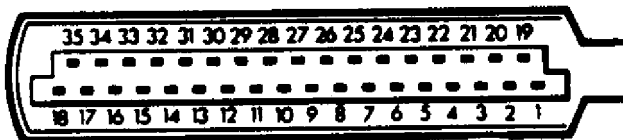
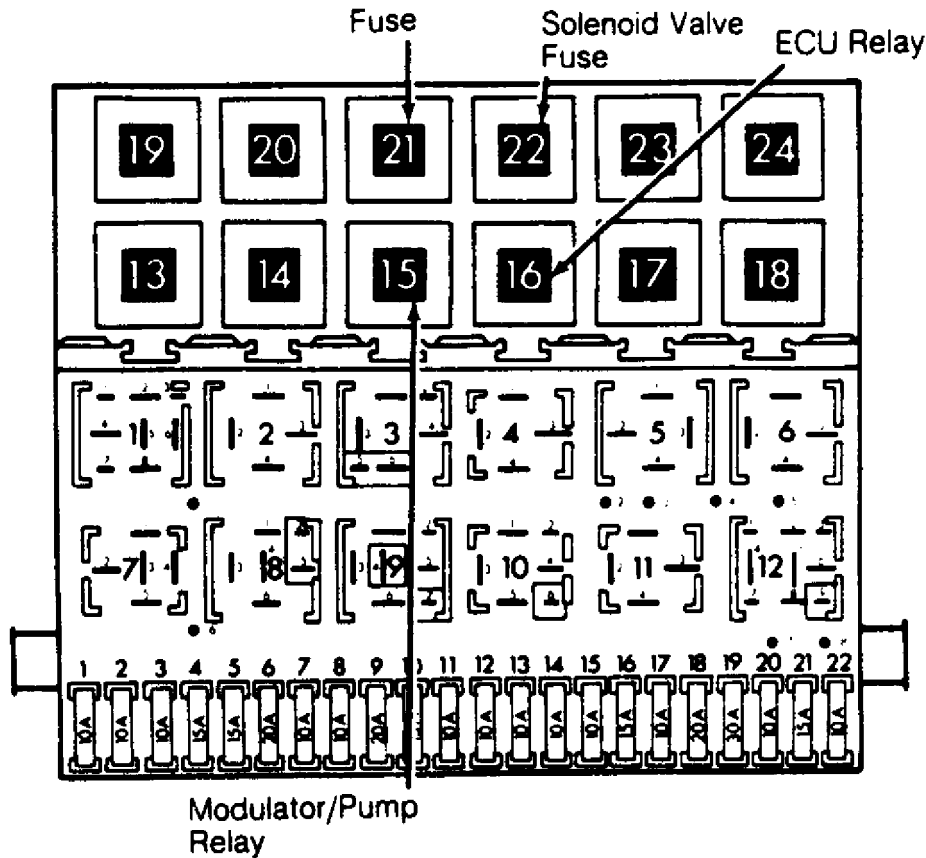

Fig. 2: Identifying ECU Connector Terminals
Fig. 3: Locating Relays
Turn ignition off. Unplug ECU connector. Turn ignition on. Using a voltmeter, check voltage between ECU connector terminals No. 1 and 2. See Fig. 2. If voltage is 10 volts or more, go to next test. If voltage is less than 10 volts, check battery, ground, ABS fuse, relay and wiring. Repair as necessary.
Connect a jumper wire between ECU connector terminals No. 2 and 8. See Fig. 2. Turn ignition on. Using a voltmeter, check voltage between ECU connector terminals No. 1 and 3. If voltage is 10 volts or more, go to next test. If voltage is less than 10 volts, check ABS fuse. If fuse is faulty, replace and retest. If fuse is okay, check wiring. If wiring is faulty, repair and retest. If wiring is okay, replace relay and retest.
1) Turn ignition off. Unplug hydraulic modulator/pump connector. Depress brake pedal 25 times. Turn ignition on. Using a voltmeter, measure voltage between ECU connector terminals No. 1 and 32. See Fig. 2. If voltage is 10 volts or more, go to RIGHT REAR WHEEL SPEED SENSOR VOLTAGE TEST under SYSTEM TESTING.
2) If voltage is less than 10 volts, check hydraulic modulator/pump fuse. If fuse is okay, check wiring between ECU connector terminal No. 32 and hydraulic modulator/pump connector terminal No. 1 (large gauge Red/Black wire). See Figs. 2 and 4-9. If wiring is not okay, repair wiring, and retest. If wiring is okay, replace relay, and retest.
Connect an AC voltmeter between ECU connector terminals No. 4 and 22. See Fig. 2. Rotate right rear wheel at one revolution per second. Measure voltage with wheel rotating. If voltage is 0.075 volt or more, go to next test. If voltage is less than 0.075 volt, check wheel speed sensor and/or toothed ring for damage, wear and proper installation. If damage or wear is found, replace faulty component and retest. If not properly installed, reposition and retest. If components are okay, replace wheel speed sensor and retest.
Connect an AC voltmeter between ECU connector terminals No. 6 and 24. See Fig. 2. Rotate left rear wheel at one revolution per second. Measure voltage with wheel rotating. If voltage is 0.075 volt or more, go to next test. If voltage is less than 0.075 volt, check wheel speed sensor and/or toothed ring for damage, wear and proper installation. If damage or wear is found, replace faulty component and retest. If not properly installed, reposition and retest. If components are okay, replace wheel speed sensor and retest.
Connect an AC voltmeter between ECU connector terminals No. 7 and 25. See Fig. 2. Rotate right front wheel at one revolution per second. Measure voltage with wheel rotating. If voltage is 0.075 volt or more, go to next test. If voltage is less than 0.075 volt, check wheel speed sensor and/or toothed ring for damage, wear and improper installation. If damage or wear is found, replace faulty component, and retest. If component is improperly installed, reposition component, and retest. If components are okay, replace wheel speed sensor, and retest.
Connect an AC voltmeter between ECU connector terminals No. 5 and 23. See Fig. 2. Rotate left front wheel at one revolution per
Turn ignition off. Using an ohmmeter, check for continuity between ECU connector terminals No. 1 and 3, and between terminals No. 1 and 20. See Fig. 2. If there is continuity at both test points, go to next test. If there is no continuity at either or both test points, check wiring. If wiring is faulty, repair and retest. If wiring is okay, replace relay and retest.
1) Turn ignition off. Remove jumper wire from previous test. Using an ohmmeter, check for continuity between ECU connector terminals No. 1 and 11. See Fig. 2. If there is continuity, go to next step.
3) Reconnect jumper wire between ECU connector terminals No. 1 and 11. Check for continuity between ECU connector terminal No. 11 and valve block connector terminal No. 1 (Brown wire). See Figs. 2, 4-9. If there is no continuity, repair wiring and retest.
Turn ignition off. Ensure brake fluid level is okay and fluid level sensor switch float is in correct position (switch is in closed position). Ensure accumulator is fully charged and pump is not operating. Using an ohmmeter, check for continuity between ECU connector terminals No. 9 and 10. See Fig. 2. If there is continuity, switch is okay. If continuity does not exist, check wiring. If wiring is okay, replace switch, and retest.
Turn ignition off. Using an ohmmeter, measure resistance between ECU connector terminals No. 4 and 22. See Fig. 2. If resistance is 800-1400 ohms, go to next test. If resistance is not as specified, check resistance at right rear wheel speed sensor. If resistance is correct, repair wiring and retest. If resistance is not correct, replace wheel speed sensor and retest.
Using an ohmmeter, measure resistance between ECU connector terminals No. 6 and 24. See Fig. 2. If resistance is 800-1400 ohms, go to next test. If resistance is not as specified, check resistance at left rear wheel speed sensor. If resistance is correct, repair wiring and retest. If resistance is not correct, replace wheel speed sensor, and retest.
Using an ohmmeter, measure resistance between ECU connector terminals No. 7 and 25. See Fig. 2. If resistance is 800-1400 ohms, go to next test. If resistance is not as specified, check resistance at right front wheel speed sensor. If resistance is correct, repair wiring and retest. If resistance is not correct, replace wheel speed sensor and retest.
Using an ohmmeter, measure resistance between ECU connector terminals No. 5 and 23. See Fig. 2. If resistance is 800-1400 ohms, go to next test. If resistance is not as specified, check resistance at left front wheel speed sensor. If resistance is correct, repair wiring, and retest. If resistance is not correct, replace wheel speed sensor, and retest.
Using an ohmmeter, measure resistance between ECU connector terminals No. 4 and 1. See Fig. 2. If resistance is 20,000 ohms or more, go to next test. If resistance is less than 20,000 ohms, check shielding wire for damage. Replace harness if damage is found and retest.
Using an ohmmeter, measure resistance between ECU connector terminals No. 6 and 1. See Fig. 2. If resistance is 20,000 ohms or more, go to next test. If resistance is less than 20,000 ohms, check shielding wire for damage. Replace harness if damage is found and retest.
Using an ohmmeter, measure resistance between ECU connector terminals No. 7 and 1. See Fig. 2. If resistance is 20,000 ohms or more, go to next test. If resistance is less than 20,000 ohms, check shielding wire for damage. Replace harness if damaged, and retest.
Using an ohmmeter, measure resistance between ECU connector terminals No. 5 and 1. See Fig. 2. If resistance is 20,000 ohms or more, go to next test. If resistance is less than 20,000 ohms, check shielding wire for damage. Replace harness if damaged, and retest.
Using an ohmmeter, measure resistance between ECU connector terminals No. 1 and 8. See Fig. 2. If resistance is 50-100 ohms, go to next test. If resistance is not as specified, check wiring. If wiring is faulty, repair and retest. If wiring is okay, replace relay and retest. See Fig. 3.
Using an ohmmeter, measure resistance between ECU connector terminals No. 11 and 17. See Fig. 2. If resistance is 5-7 ohms, go to next test. If resistance is not 5-7 ohms, measure between hydraulic modulator block terminals No. 1 (Brown wire) and 5 (Gray wire). See Fig. 4-9. If resistance is 5-7 ohms, check wiring between hydraulic modulator and ECU for open circuit. If resistance is not 5-7 ohms, replace hydraulic modulator.
Using an ohmmeter, measure resistance between ECU connector terminals No. 11 and 15. See Fig. 2. If resistance is 5-7 ohms, go to next test. If resistance is not 5-7 ohms, measure between hydraulic modulator terminals No. 1 (Brown wire) and 2 (Yellow wire). See Fig. 4-9. If resistance is 5-7 ohms, check wiring between hydraulic modulator and ECU for open circuit. If resistance is not 5-7 ohms, replace hydraulic modulator.
Using an ohmmeter, measure resistance between ECU connector terminals No. 11 and 35. See Fig. 2. If resistance is 5-7 ohms, go to next test. If resistance is not 5-7 ohms, measure between hydraulic modulator terminals No. 1 (Brown wire) and 7 (Blue or Black/Green wire). See Figs. 4-9. If resistance is 5-7 ohms, check wiring between valve block and ECU for open circuit. If resistance is not 5-7 ohms, replace hydraulic modulator.
Using an ohmmeter, measure resistance between ECU connector terminals No. 11 and 33. See Fig. 2. If resistance is 3-5 ohms, go to next test. If resistance is not 3-5 ohms, measure between valve block terminals No. 1 (Brown wire) and 4 (White wire). See Fig. 4-9. If resistance is 3-5 ohms, check wiring between hydraulic modulator and ECU for open circuit. If resistance is not 3-5 ohms, replace hydraulic modulator.
Using an ohmmeter, measure resistance between ECU connector terminals No. 11 and 34. See Fig. 2. If resistance is 3-5 ohms, go to next test. If resistance is not 3-5 ohms, measure between hydraulic modulator terminals No. 1 (Brown wire) and 3 (Green wire). See Fig. 4-9. If resistance is 3-5 ohms, check wiring between hydraulic modulator and ECU for open circuit. If resistance is not 3-5 ohms, replace hydraulic modulator.
Using an ohmmeter, measure resistance between ECU connector terminals No. 11 and 16. See Fig. 2. If resistance is 3-5 ohms, go to next test. If resistance is not 3-5 ohms, measure between hydraulic